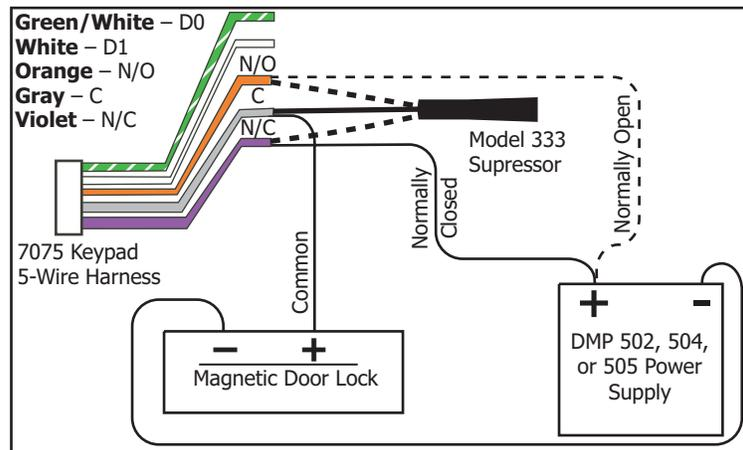

Figure 3: 791/793 5-wire Harness and Suppressor Installation
One Model 333 Suppressor is included with the 791/793 Keypad. Refer to Figure 3 and install the suppressor across the 5-wire output/reader harness Common (C) and Normally Open (NO) or Normally Closed (NC). This suppressor replaces a diode that shipped with early 791/793 modules.